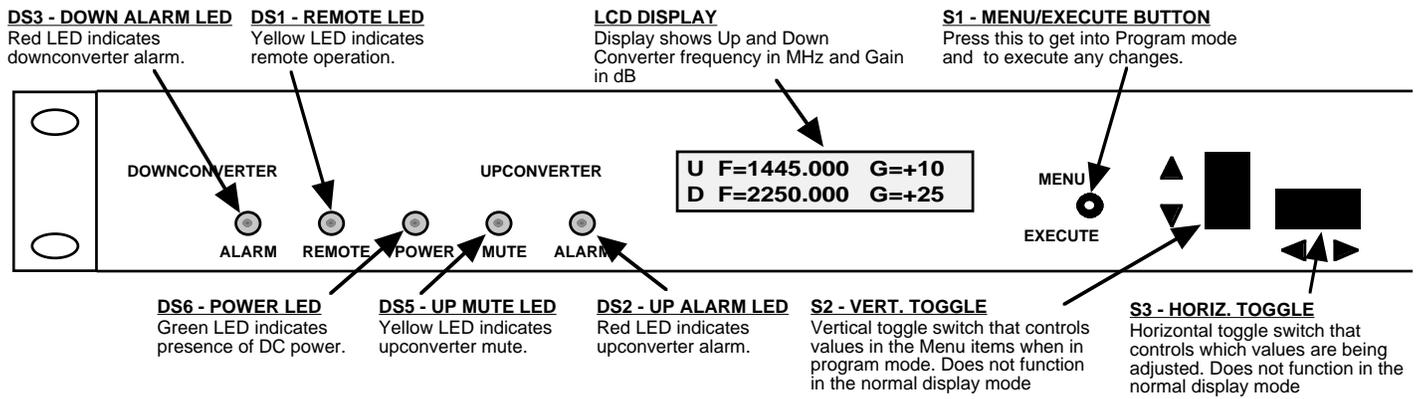

Figure 2.2 Model 2017-36 Front Panel Controls and Indicators
- 8.) Be sure DS6 (green, DC Power) is on and DS2 (red, Alarm) is off (Figure 2.2).
- 7.) Be sure DS6 (green, DC Power) is on and DS2 (red, Alarm) is off (Figure 2.2).
Alarm indications appear on the LEDs (see figure 2.2).